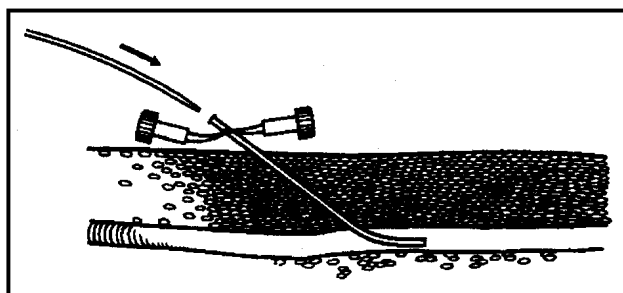

Figure 3-28
- (e) Pass the central venous catheter through the sheath into the vein until the catheter hub contacts the sheath. (See Figure 3-28.)